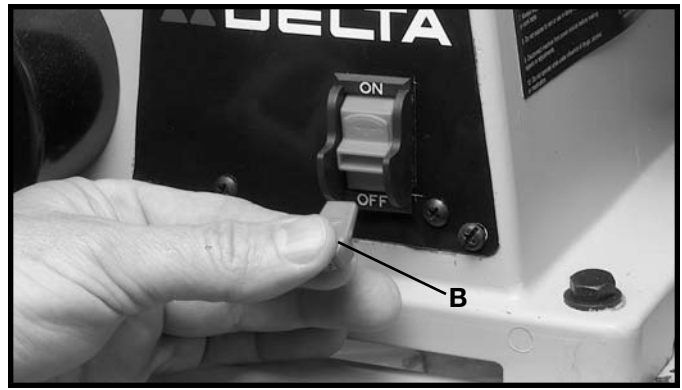

Fig. 20
**IMPORTANT:** When the machine is not in use, the switch should be locked in the “OFF” position to prevent unauthorized use. This can be done by grasping the switch toggle (B) and pulling it out of the switch, as shown in Fig. 20. With the switch toggle (B) removed, the switch will not operate. However, should the switch toggle be removed while the sander is running, it can be turned “OFF” once, but cannot be restarted without inserting the switch toggle (B).